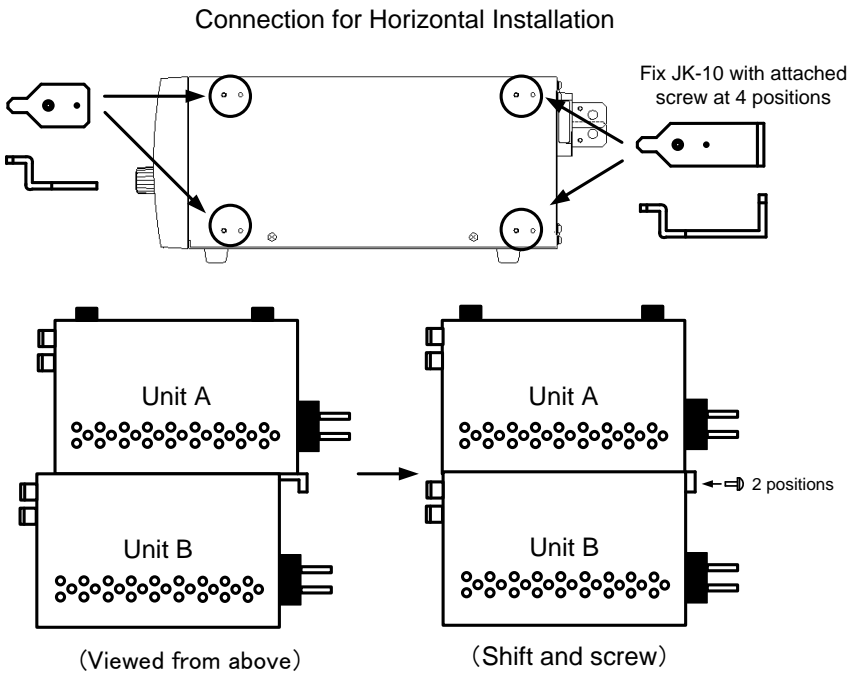

Fig.6-7 Connection for Horizontal Installation
(5) Connect the bus bar (OP-21A or OP-21B) as shown in Fig. 6-7.